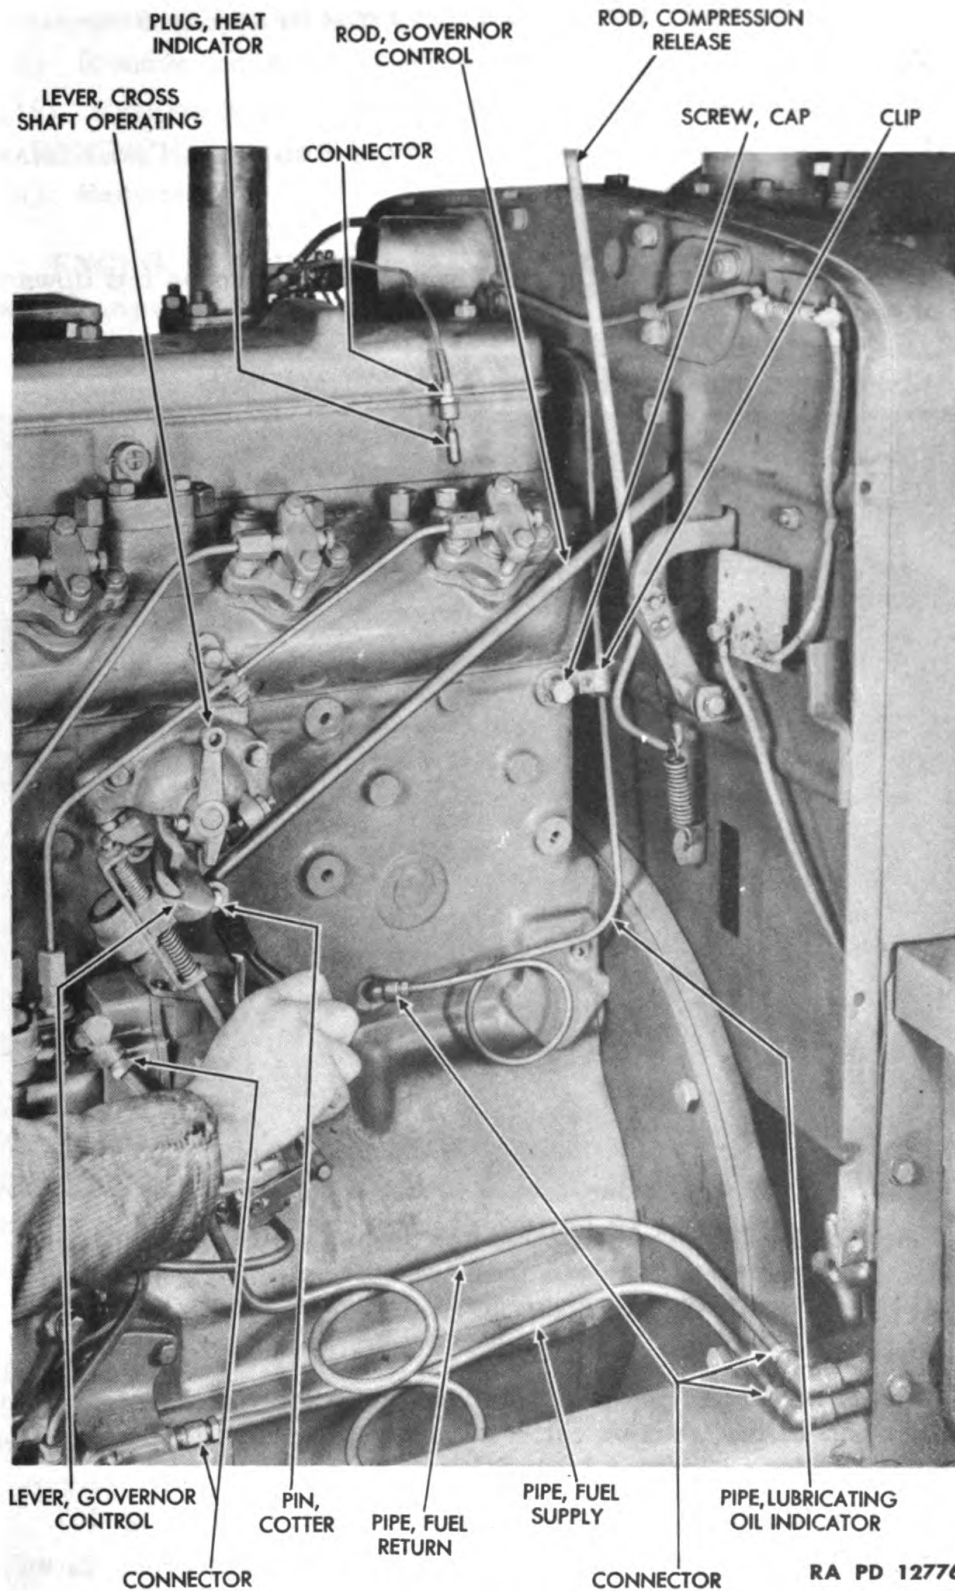

Figure 15—Disconnections at Left Rear of Engine
OPERATING LEVER (fig. 15).
(12) REMOVE GOVERNOR CONTROL ROD (fig. 15).
(13) DISCONNECT LUBRICATING OIL INDICATOR PIPE (fig. 15).
(14) REMOVE FUEL RETURN PIPE (fig. 15).
(15) REMOVE FUEL SUPPLY PIPE (fig. 15).